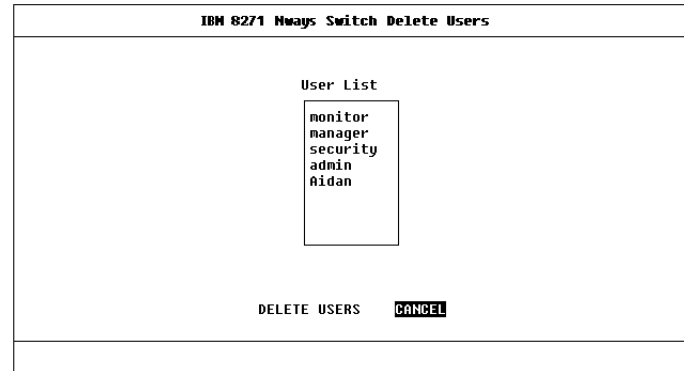

Figure 4-4 Delete Users screen
- 1 Select the DELETE USERS option. The Delete Users screen is displayed, as shown in Figure 4-4.